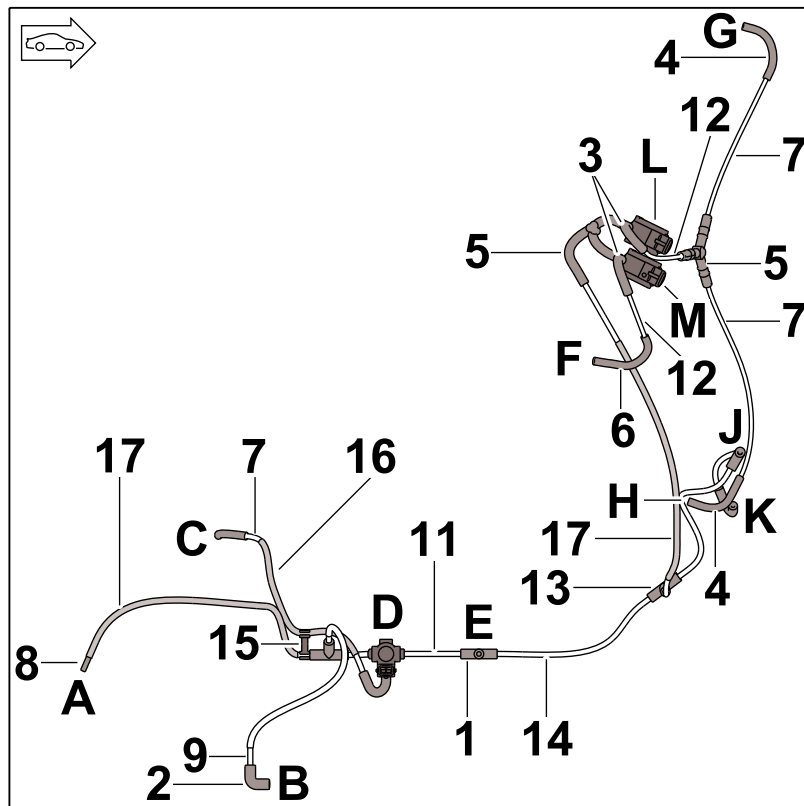

Figure 21
- Vacuum system; side view (cylinder 4–6): ⇒ *Figure 21*